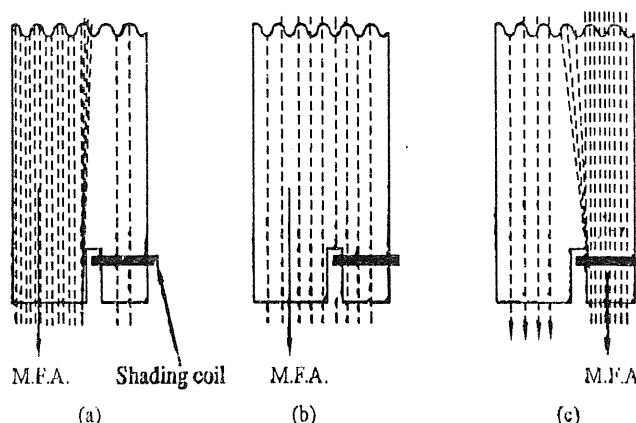

FIG. 4.19 : DISTRIBUTION OF FLUX
- During the portion A to B, the flux will change from zero to certain value. But, as the inductance of the copper ring will oppose this change, the most of the flux will pass from the un-shaded part and a small amount of the flux will pass from the shaded part. Thus, the magnetic field axis (M.F.A.) is in the un-shaded part. It is shown in Fig. 4.19(a).
- During portion B to C, the value of the flux is approximately constant. Hence, the distribution of the flux in the shaded part is same as un-shaded part. Thus, the magnetic field axis comes into the center of the pole. It is shown in Fig. 4.19(b).
- During the portion C to D, the flux will change from certain value to zero. But, again the inductance of the copper ring will oppose this change; the most of the flux will pass from the shaded part. Hence, the magnetic field axis (M.F.A.) is in the shaded part. It is shown in Fig. 4.19(c).